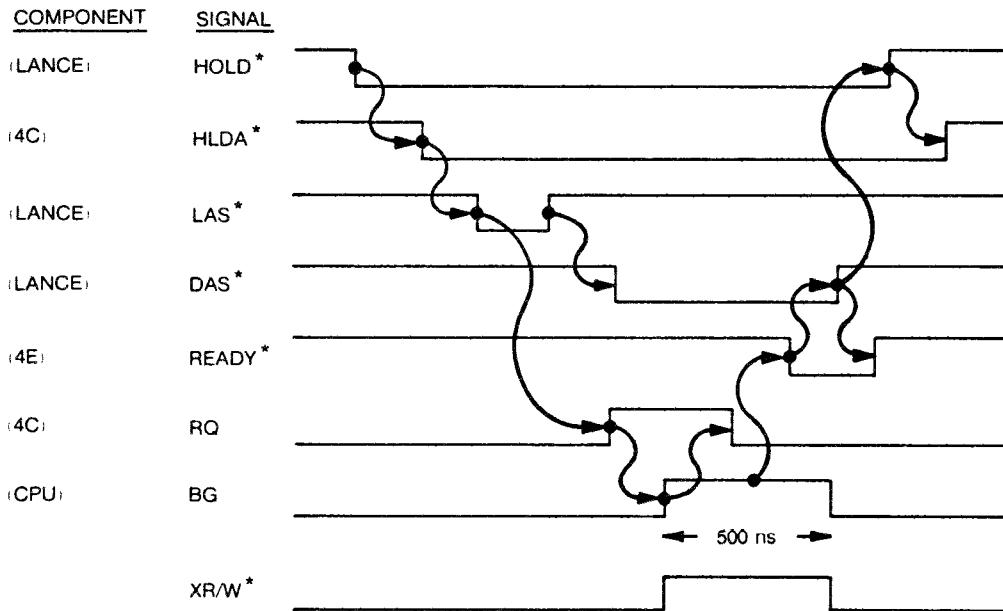

Figure 3 Expansion Board Cycle Diagram
- o 4C (PAL20R8A located on schematic page 5) is either malfunctioning or the wrong equation is being read. Also, use the logic analyzer to check pins 19 - 22 for the correct CYC0* - CYC3* sequence (refer to the cycle diagram, Figure 3).
Refer to the timing diagram in Figure 3.